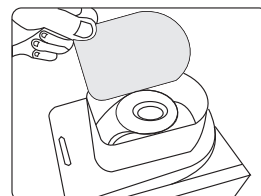
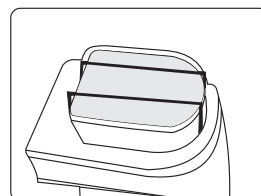

Fig. 1
Fig. 2
- B. Remove the main unit, turn it upside down, install the filter over the heating element (Fig. 1) and use the metal clip provided to hold it in place (Fig. 2). Put the main unit back in its original position.